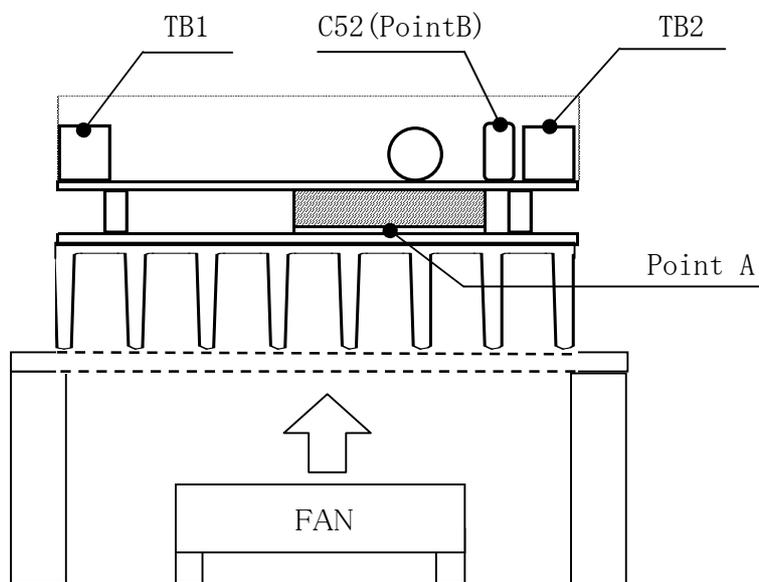

Fig.1.1 Measuring environment(Side view)
- (1) Input : AC 85 ~ 264 [V]
- (2) Output : Rated output
- (3) Measuring environment : Shown as Fig.1.1